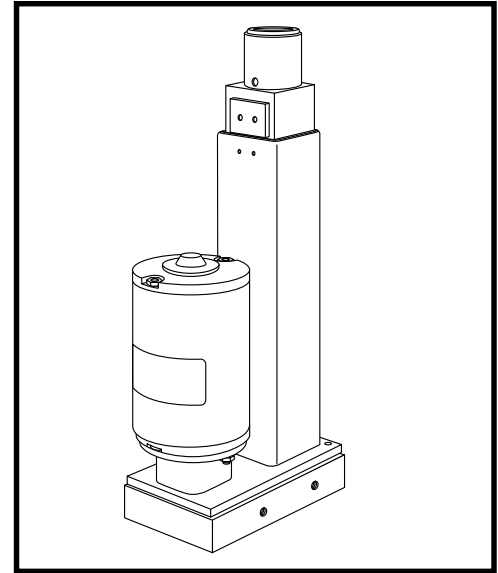

Figure 12. Power Seat Actuator
1. Align the seat plate interface bracket onto the actuator. See figure 12.